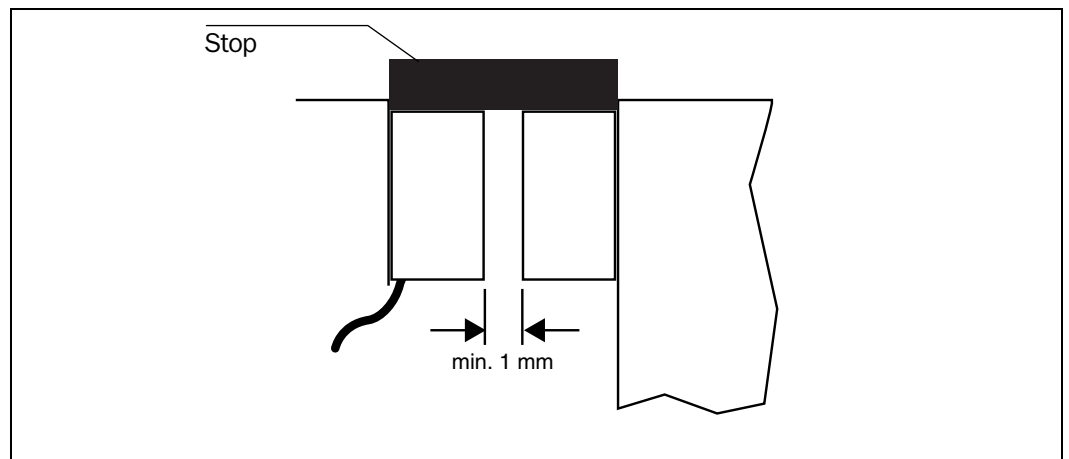

Fig. 2: Sample assembly of sensor and actuator
- The installed sensor and actuator must not be in contact with each other: Minimum distance between faces with closed safety guard is 1 mm (Fig. 2).
- Install additional stop for the moving part of the safety guard (Fig. 2).